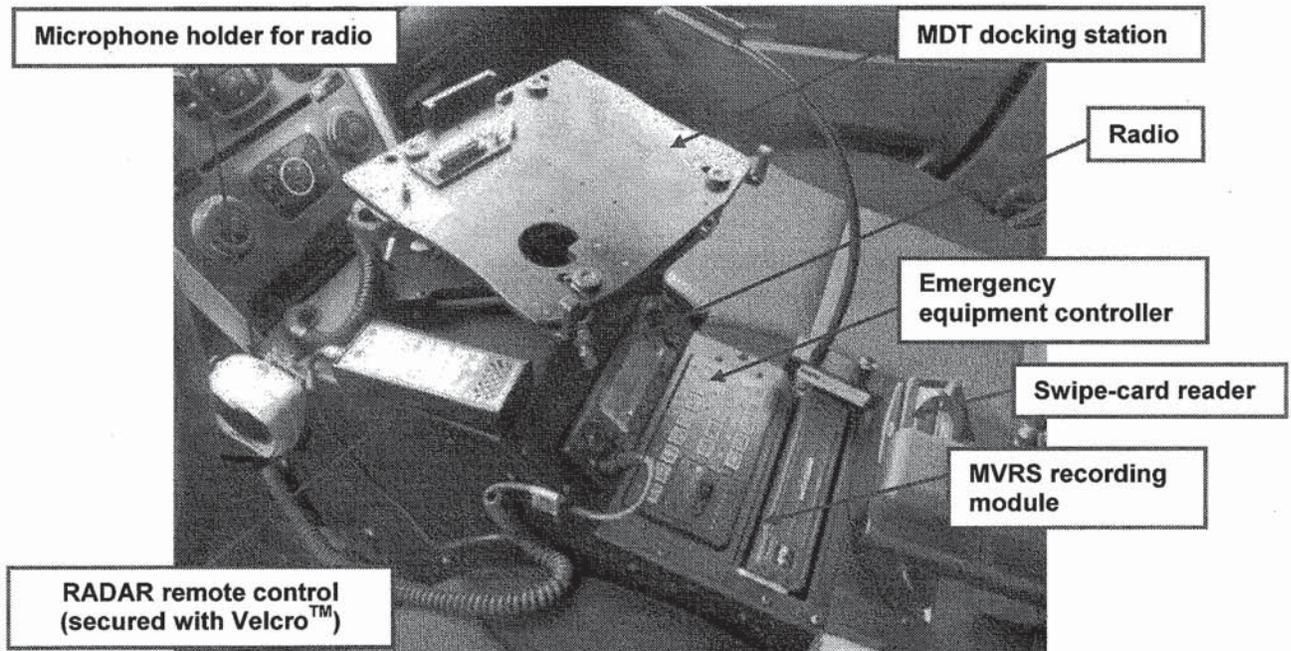

Figure 18 – Ergonomic mid-console configuration example
- d. An electronic swipe-card reader installed on the center console (see Figures 18 and 19).
31. *Figures 18 and 19* contain illustrated examples of ergonomic mid-console equipment configurations for use in Ford Police Interceptor Sedan marked MP vehicle. Although models and designs of commercially available ergonomic mid-consoles vary widely, the placement of police radio, emergency equipment controllers, and other features ***shall*** not vary from these diagrams.